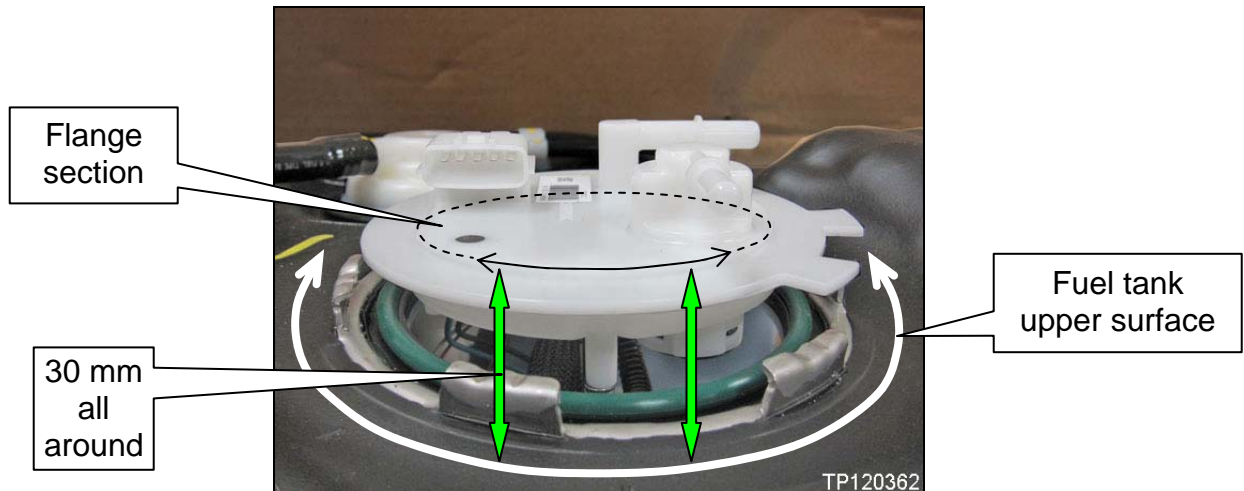

Figure 6
6. With the fuel pump assembly sitting in the fuel tank, verify proper positioning before securing (see Figure 6):